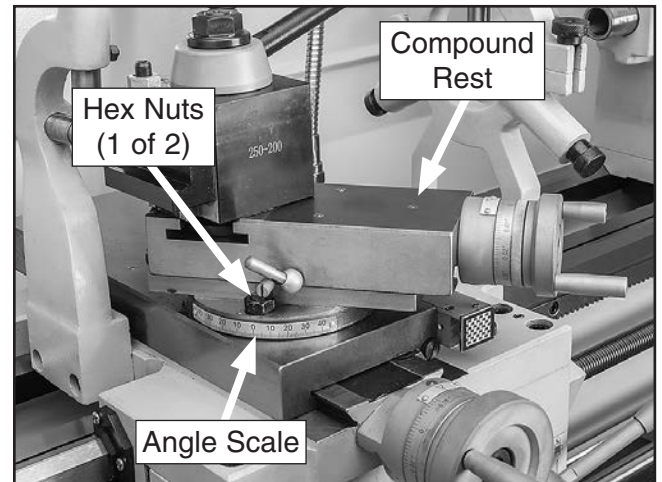

Figure 56. Compound rest angle adjustments.
1. Loosen two hex nuts at base of compound rest (1 of 2 shown in **Figure 56**).
Use this handwheel to move the cutting tool linearly along the set angle of the compound rest. Set the compound rest angle by hand-rotating it and securing it with the two hex nuts (see **Figure 56** on **Page 45**). The compound rest has an indirect-read graduated dial, which shows the actual distance the tool moves.